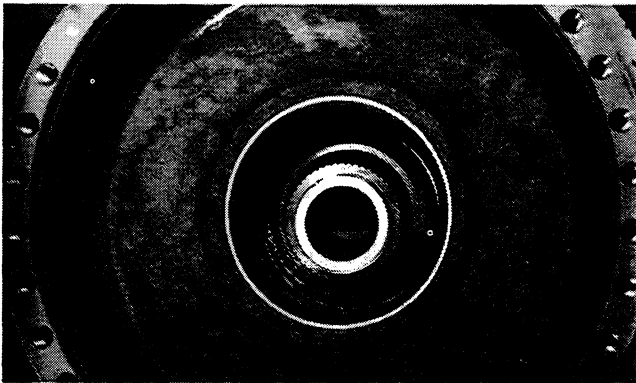

Figure 9:
11. Pull the hub from the spindle while keeping it aligned to avoid damaging the bearings or spindle splines (Fig. 9).